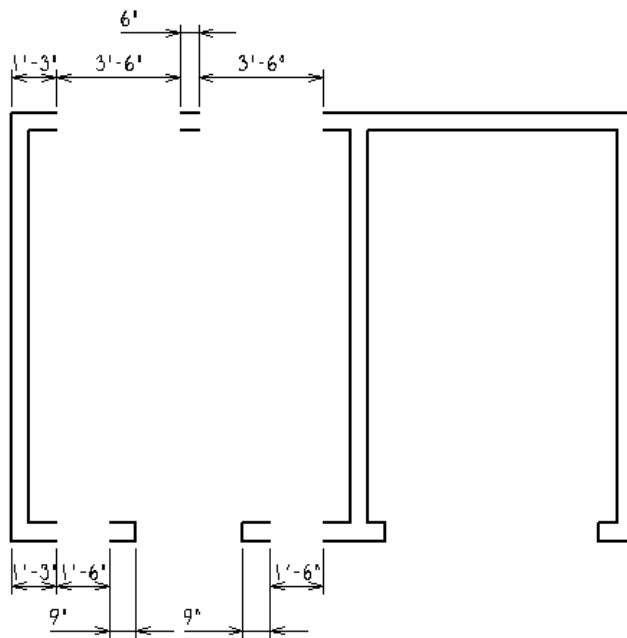

Figure P8-9 The walls after cutting holes for windows and wall unions
STEP 9: Draw the interior wall by Keypoint snapping to the inside of the top-left corner of the outer wall, as shown by the note in Figure P8-9.
This procedure uses the Multi-line Joints tools to clean up the inner and outer wall intersections and to cut four holes in the utility room wall for windows, as shown in Figure P8-9.
STEP 5: Use the Cut All Component Lines tool to cut two 3.5'-wide window holes in the top wall of the utility room. Use the dimensions in Figure P8-9 as a guide.